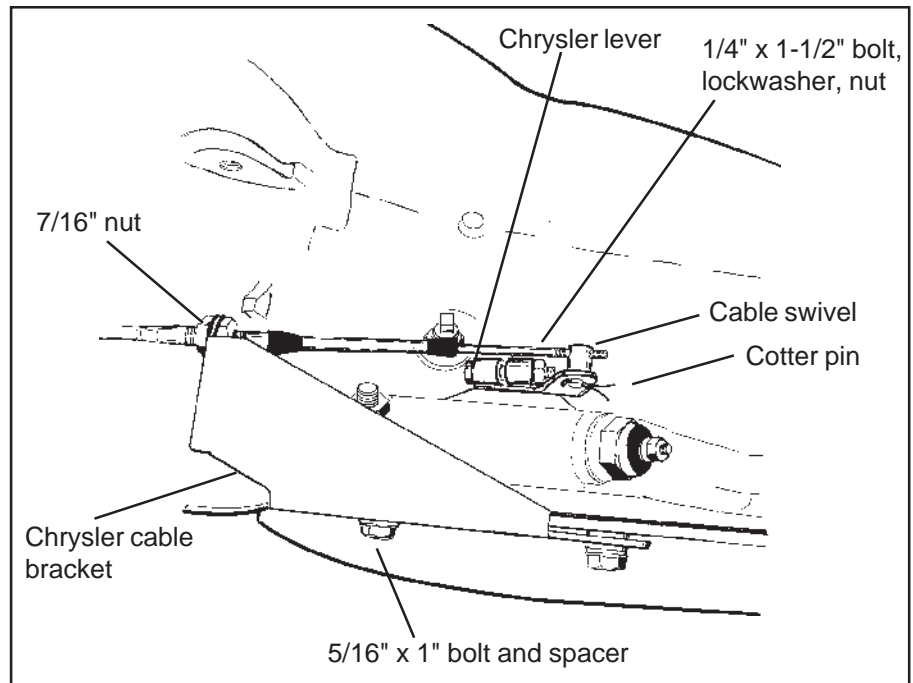

Figure 6
STEP 19. If you have not already done so, loosen the pinch bolt on the throttle lever on the transmission. This is the lever on the small diameter shaft. Pry the lever off with a screwdriver and allow the linkage to hang free. Remove and discard the stock shift lever and the stock shift linkage. Install the **B&M** selector lever in position and tighten the pinch bolt securely (See **Figure 6**). Make sure the lever is not pushed down so far as to touch the transmission case. This will cause the lever to bind on the case. The lever should travel smoothly from front to back with a positive click in each gear position. Install the stock throttle lever into position on the small diameter shaft as removed and tighten the pinch bolt securely. The throttle lever must operate smoothly.
STEP 20. Remove the two transmission oil pan bolts directly below the shift lever. Install the cable bracket into position with two spacers between the pan and the bracket (See **Figure 6**). (If your transmis-